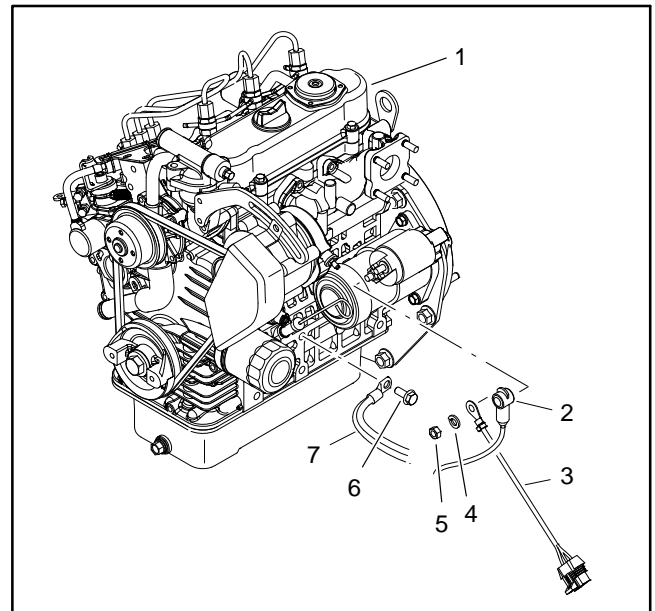

Figure 12
A. Positive (+) battery cable, fusible link harness and harness ring terminal from starter solenoid stud (Fig. 12).
F. Negative (-) battery cable and harness ground connector secured to engine mount (Fig. 12). Note location of ground connections and flange head screw for assembly purposes.
- A. Positive (+) battery cable, fusible link harness and harness ring terminal from starter solenoid stud (Fig. 12).
- F. Negative (-) battery cable and harness ground connector secured to engine mount (Fig. 12). Note location of ground connections and flange head screw for assembly purposes.